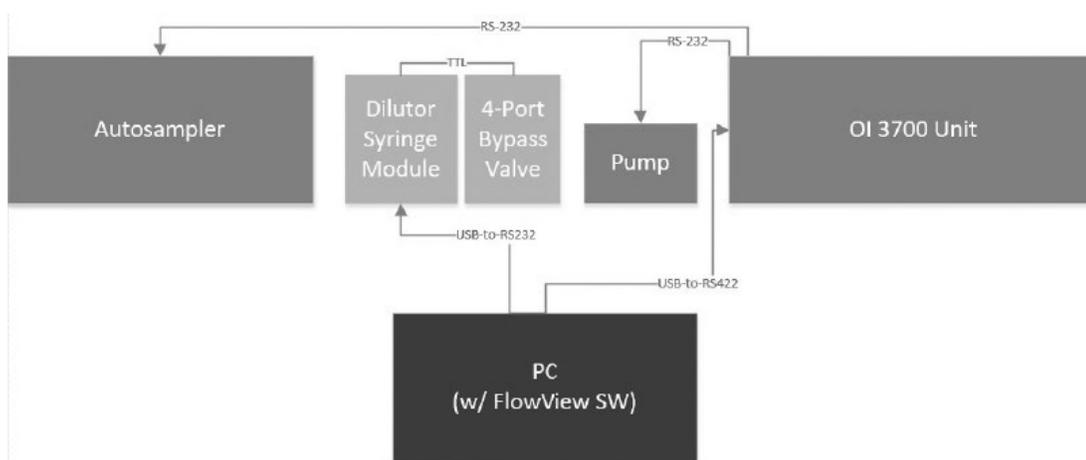

Figure 6.6 - FS3700 System with 1-2 Channels, Autosampler, and Dilution Module
An optional module for the Autodilutor system (including Autodilutor Syringe Module and 4-Port Bypass Valve) can also be added, as depicted in Figure 6.6.
1. Place the Autodilutor modules (refer to Figure 6.6)